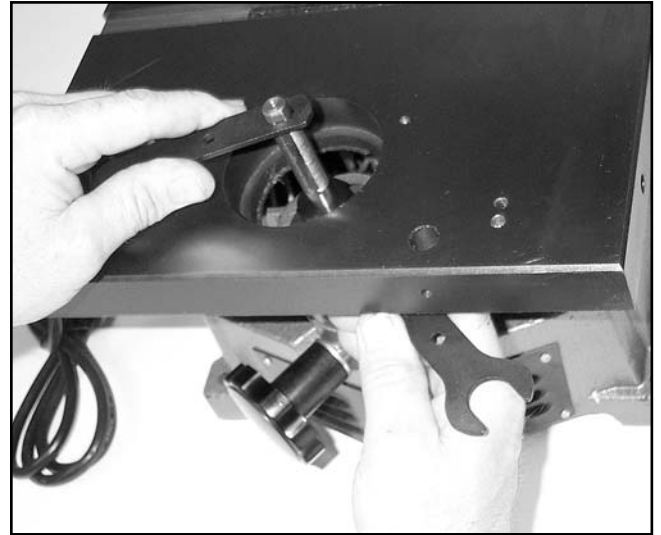

Figure 3. Tightening Spindle.
3. Lock the assembly in place by tightening the Shaper Nut with the wrenches provided. See **Figure 3**.